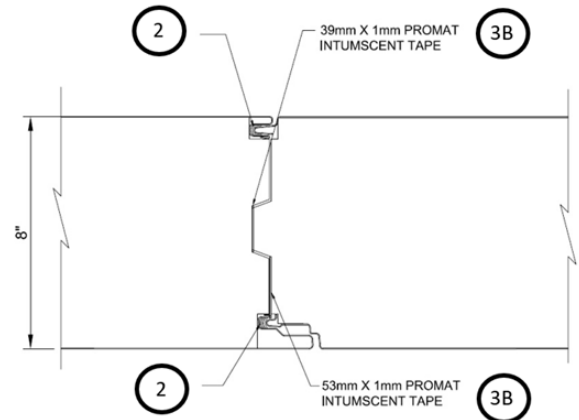

Figure 4. Interlocking Joint W/Intumescent Tape
- B. **OPTION 2** – Refer to Figure 4. Use Promat Promaseal®-LW intumescent tape with specified widths and locations.